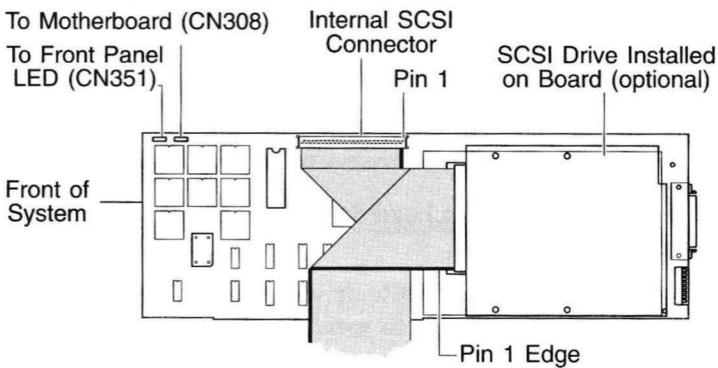

Figure 5. Connecting the Ribbon Cable to the Board
5. Connect the ribbon cable to the board, aligning pin 1 on the cable connector (colored edge) with pin 1 on the board as illustrated in Figure 5.
6. Connect the ribbon cable to the hard drive on the board (if installed) as illustrated in Figure 5. Be sure to align pin 1 on the cable connector with pin 1 on the device, usually indicated on the device by an arrow (\leftarrow) or the number 1.
8. Unplug the hard disk front panel LED cable from the hard disk LED connector on the motherboard (if connected) and plug it into the To Front Panel LED (CN351) connector on the A4091 board, illustrated in Figure 5.
9. If you want the hard disk LED to operate for IDE drives as well, install the LED jumper cable (supplied with the A4091 board) from the motherboard LED connector to the To Motherboard (CN308) connector on the A4091 board, illustrated in Figure 5.